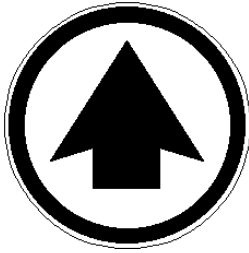

Figure 4
A. An arrow sign (See Figure 4) shall be visible from the approach side of a swinging door, mounted on the door at a height 58 in., ±5 in. (147 cm, ±13 cm) from the floor to the centerline of the sign. The sign shall be minimum of 6 in. (15.2 cm) in diameter, having a green circle surrounding a black arrow on a white background.